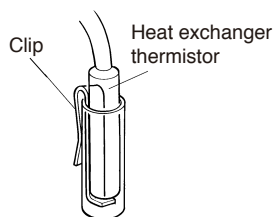

Fig. 19
**NOTE** Take care not to lose the clip of thermistor. (Fig.19)